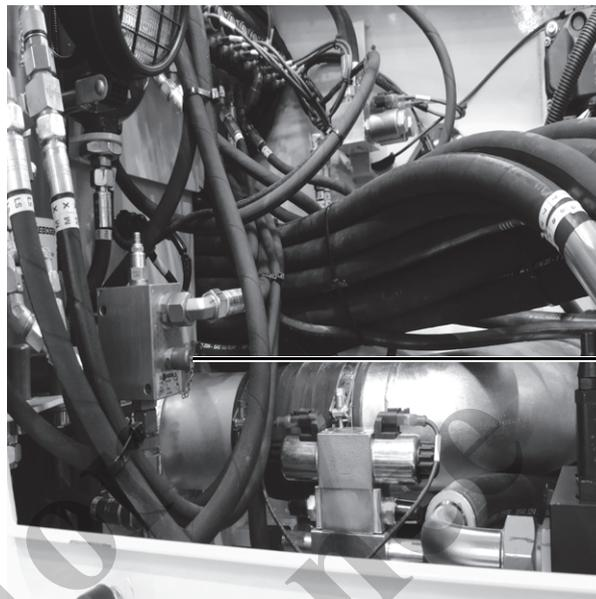

Fig. 214 Pressure accumulator measurement connection
2	Connect the pressure gauge to connection M25 (1) in Fig. 214.